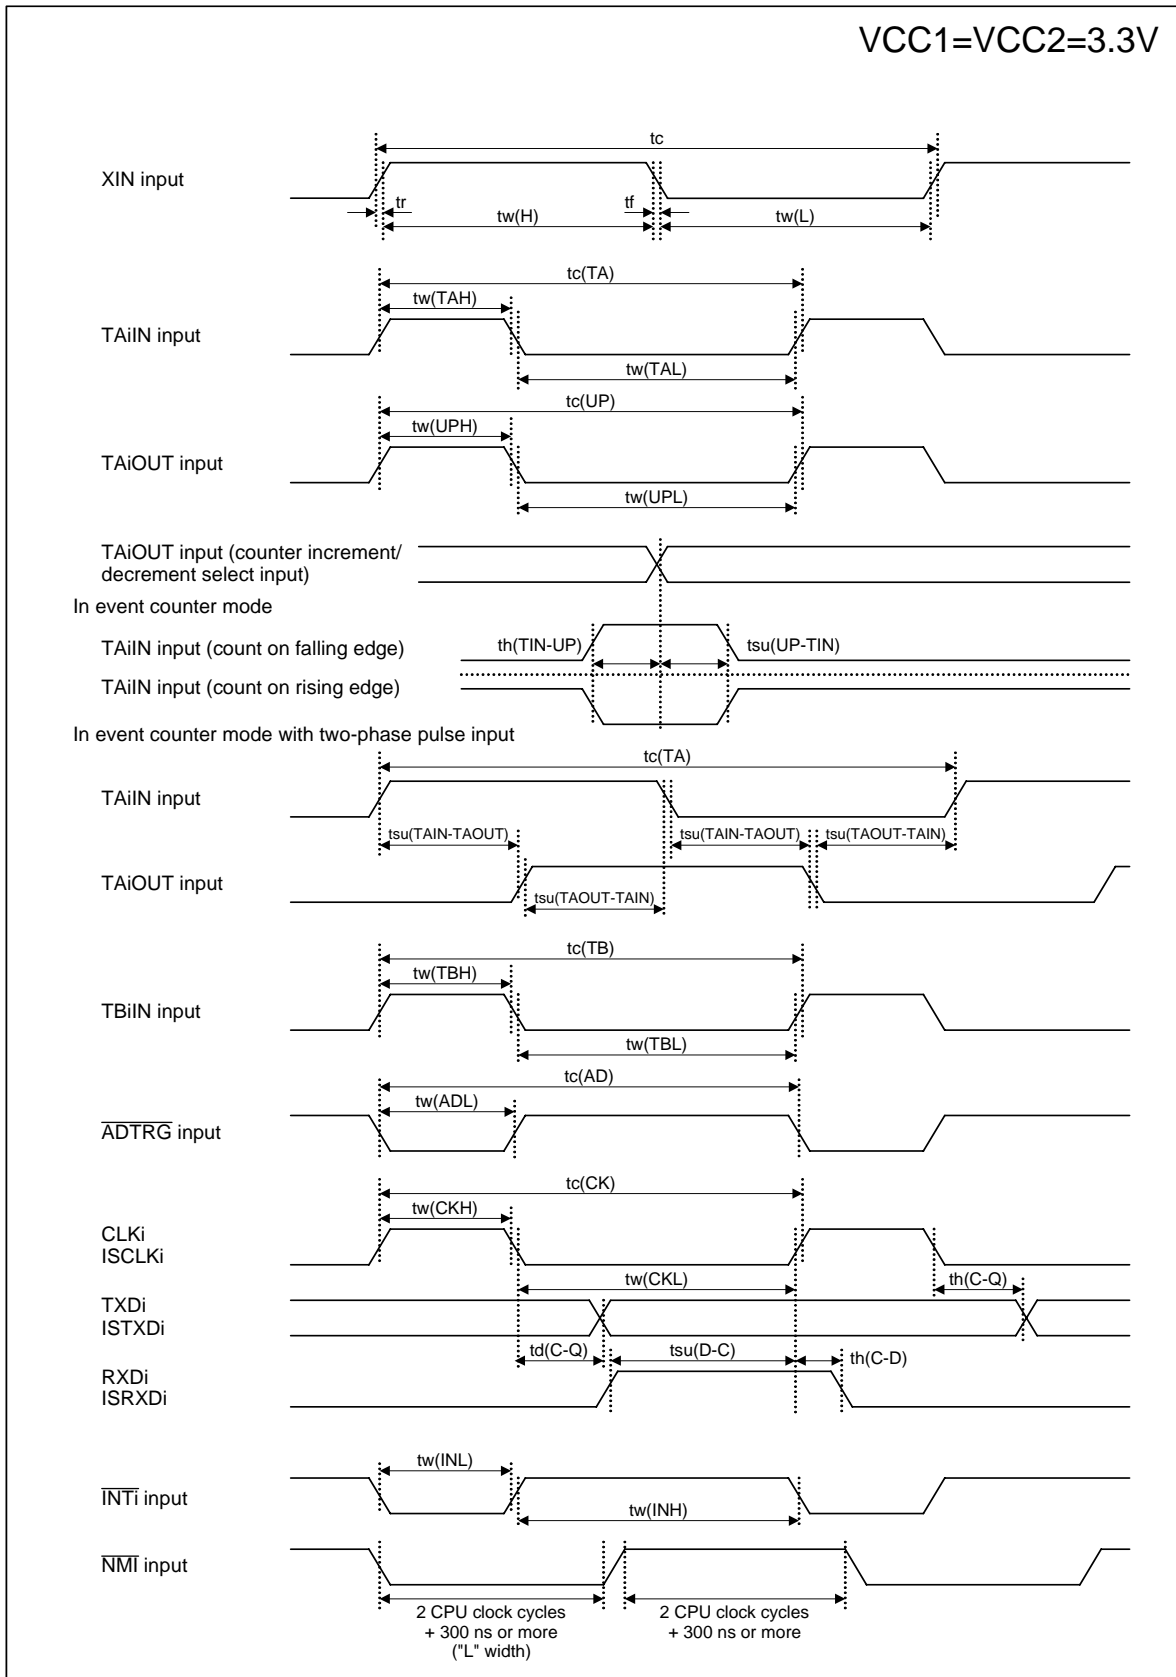

Figure 5.7 VCC1 = VCC2 = 3.3 V Timing Diagram (1/4)
71	• Figure 5.7 Vcc1=Vcc2=3.3V Timing Diagram (1) $t_h(BCLK-AD)$, $t_h(BCLK-CS)$ and $t_h(BCLK-RD)$ values modified; $t_{ac1}(AD-DB)$ expression on note 2 modified; $t_h(WR-DB)$, $t_h(WR-AD)$ and $t_w(WR)$ expression on note 3 modified; t_{cyc} expression added
47	Electrical Characteristics <ul style="list-style-type: none"> [Term changed] Low Voltage Reset → Hardware Reset 2 Low Voltage Detection → Vdet3 and Vdet4 detection circuit Table 5.1 Description in Condition field of Pd (Power consumption) partially modified Tables 5.2 to 5.9 f(BCLK) is changed to f(CPU) Table 5.4 Description added in Parameter field of f(CPU); f(VCO) added Tables 5.5 to 5.7 and Tables 5.31 to 5.33 Description in XCOU and Hysteresis in Parameter fields partially modified Table 5.7 and 5.33 Structure and standard values revised; items in Measurement Condition and NOTE added Table 5.8 Description in Parameter field and NOTE partially modified Table 5.9 and 5.10 Description in Parameter field and NOTE partially modified Tables 5.11 and 5.36 Description in Parameter field and standard value partially modified Tables 5.19 and 5.42 added Table 5.24 Values revised; Table 5.25 and 5.26 added Table 5.27 Titles modified; NOTE added Table 5.28 moved to the last table in Timing Requirements Table 5.29 NOTE 3 added; Table 26.30 NOTE 5 added Figures 5.3 to 5.6 Order rearranged; measurement condition modified Table 5.31 to 5.35 f(BCLK) revised to f(CPU) Table 5.47 Values revised; Table 5.48 and 5.49 added Table 5.50 Titles modified; NOTE added Table 5.51 Table moved to the last table in Timing Requirements Table 5.52 NOTE 3 added; Table 5.53 NOTE 5 added Figures 5.7 to 5.10 Order rearranged